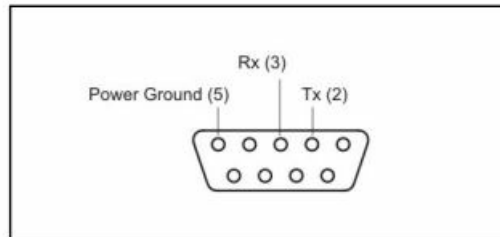

Fig. 2.4 9-pin female D-sub connector socket for connecting directly to an RS232 computer port (external view)
- 9-pin female D-sub connector socket for connecting directly to an RS232 computer port. Wiring diagram shown in Fig. 2.4.